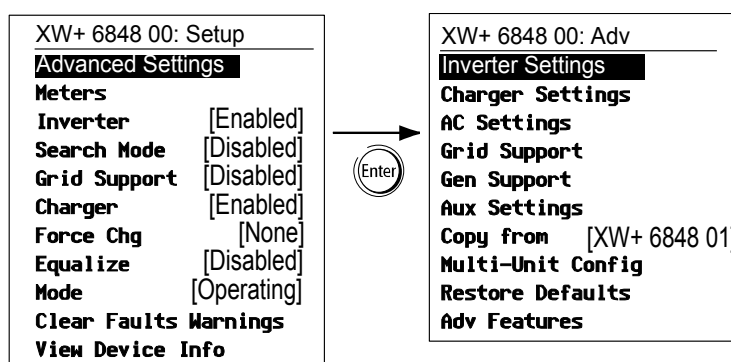

Figure 3-2 Selecting Advanced Settings
- From the Setup menu, with `Basic Settings` or `Advanced Settings` highlighted, press **Enter**. See Figure 3-2.